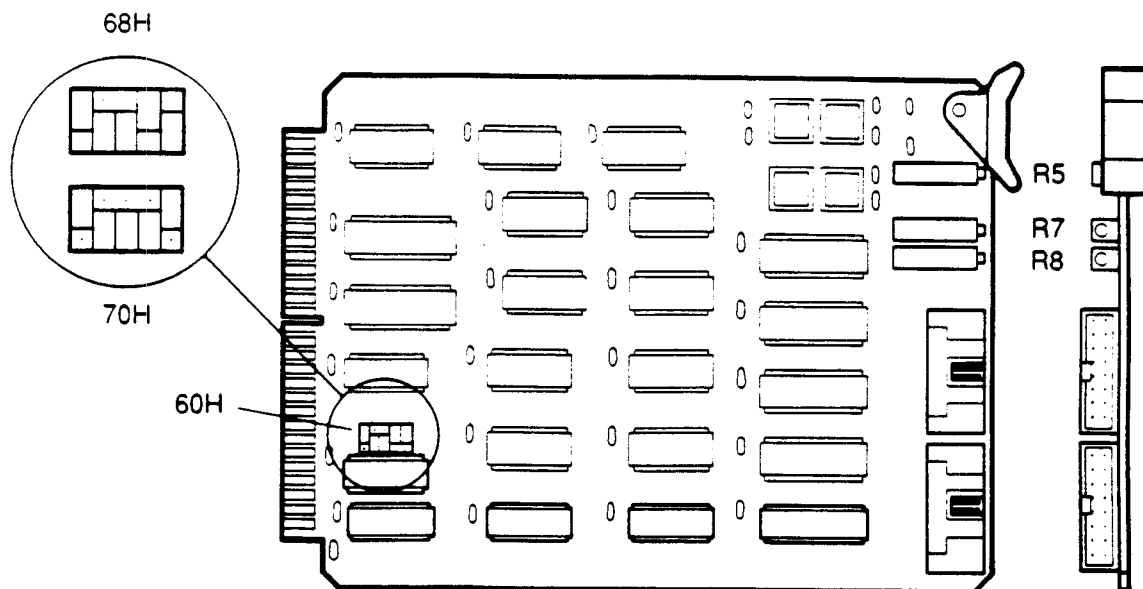

Fig. 5.6. Pump card top and end view.
The cables are marked where they plug into the circuit cards. Adjustment pot R5 is the topmost pot, and adjustment pot R7 is underneath it. There is another pot beneath R7 (called R8). Be careful not to change its adjustment. See Figure 5.6 for details.
1. Before adding a pump card the jumpers on the printed circuit card must be properly set to operate with your system. All system interfaces come with at least one pump controller card. This card is assigned to address 60 (hex). The second pump controller card must be assigned to address 68 (hex), and the third must be assigned to address 70 (hex). Address selection is accomplished by placing jumper plugs on the circuit board. To set the card address jumpers for the pump controller cards refer to Figure 5.6.